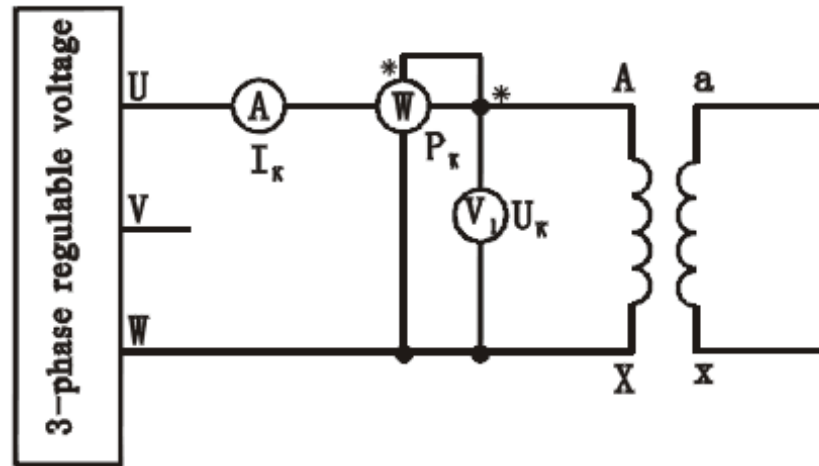

Figure 2: Short circuit test
- 1) Connect the circuit as per Figure 2. The HV winding is connected to the power supply, while the LV winding has the short circuit. An additional ammeter can be inserted in the path of the short circuit as optional/advanced work.